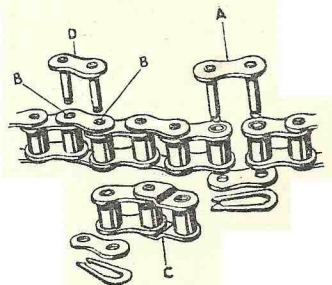
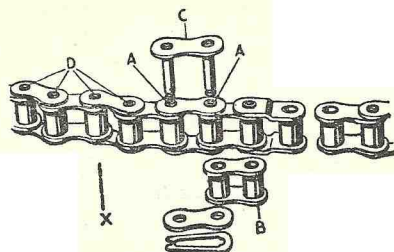

Fig. X8.
Fig. X9.
After a big mileage, the rear chain may have stretched so that no further adjustment is possible by the usual method. In this case it is possible to shorten the chain by one link or pitch, so increasing its useful life. First remove the single connecting spring link (A) securing the two ends of the chain, Fig. X8. If the chain terminates in two ordinary links as in Fig. X8 (in which case the chain will be an even number of pitches) extract the third and fourth rivets (B) from the end and replace the detached three pitches by a single connecting link (C). The connection is made with an additional spring link (D). If one end of the chain has a double cranked ling, Fig. X9—in which case the chain will have an odd
If a roller or link has been damaged (X) Fig. X9, remove rivets (D), take out the damaged link and replace with one inner link, secured by two single connecting links.